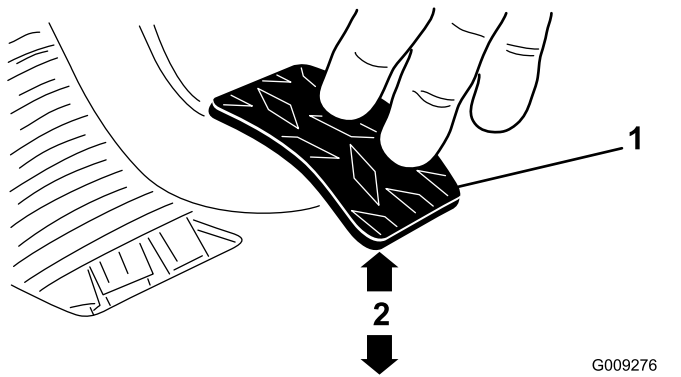

Figure 60
3. Adjust the jam nuts or ball joint until the rear edge of the clutch pedal is 9.2 to 9.8 cm (3-5/8 to 3-7/8 inches) from the top of the floor plate diamond pattern, when you apply 1.8 kg (4 lb) of force to the pedal (Figure 60).